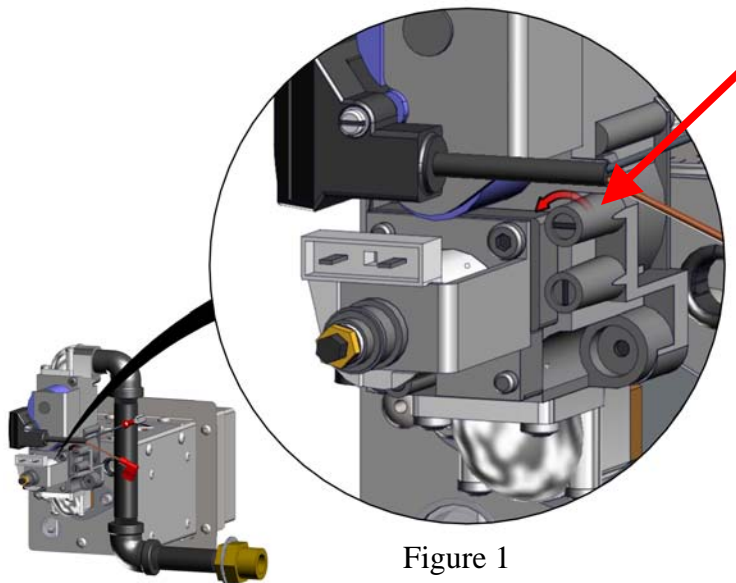

Figure 1
- Loosen screw 1 full turn counter clockwise (Figure 1)